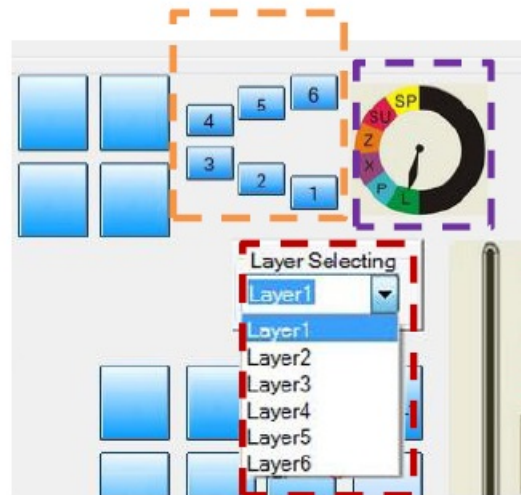

Figure 2.1.2
1. It indicates 6 electronically lock key, it can be used for layer key as well as ordinary key, Figure 2.1.2